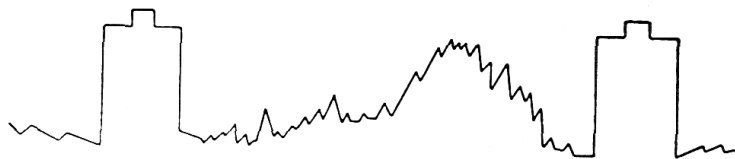
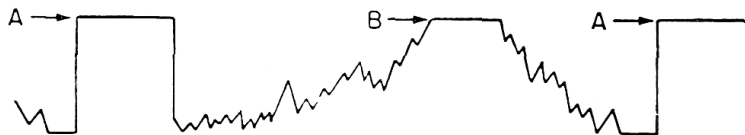

Figure 4—Normal Video and Sync Signal
Figure 5—Overloaded or Clipped Video and Sync Signal.
After detection, a video signal normally appears as shown in Figure 4. If the signal is clipped in an I.F. stage it will look like Figure 5. Now the horizontal oscillator will try to synchronize both on the blanking signal (A) and on the very black portions of the video (B). This results in pulling or snaking of the picture.